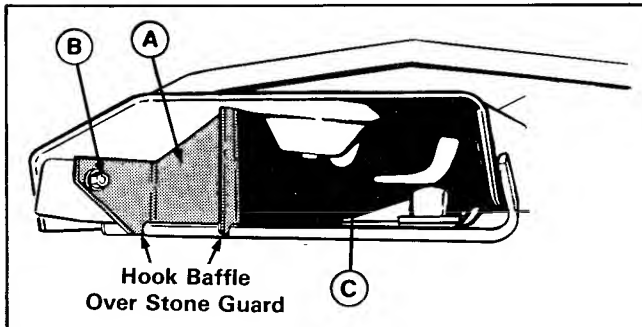

Figure 7.
12. Install the new baffle (A, figure 7) in deck on stone guard using existing hardware. Hardware may be installed with nut to inside or nut to outside.